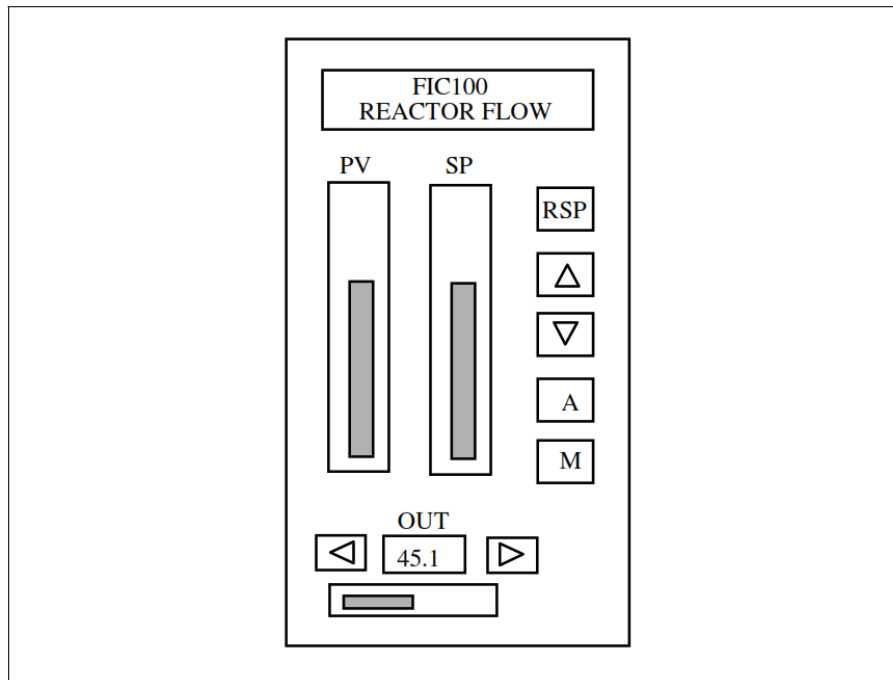

Figure 5-3. Typical electronic controller
A front-panel view of a typical electronic process controller is shown in Figure 5-3. The controller has two vertical bar displays to give the operator a pictorial view of the process variable and the set point. It also has two short horizontal digital displays just above the vertical bars to give the operator a direct digital readout of the process variable and the set point. The operator uses dual push buttons with indicating arrows to adjust the set point and the manual output functions. The operator must depress the manual (M) push button to activate the manual output function.
During normal operation, the operator will select automatic (A) mode. Manual is generally used only during system startup or during a major upset condition when the operator must take control to stabilize the process. The controller shown in Figure 5-3 has both a horizontal bar display and a digital indicator to provide the operator with the value of the output